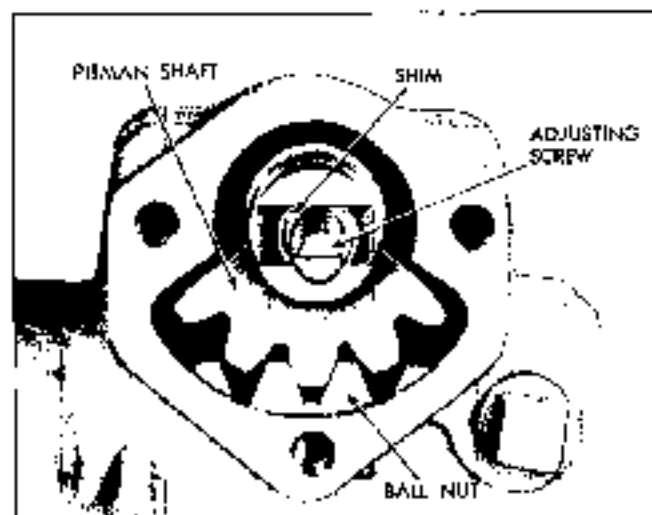

Fig. 9-45 Position of Pitman Shaft and Ball Nut
5. Install pitman shaft adjusting screw and selective shim in pitman shaft (Fig. 9-45).
8. Install pitman shaft and adjusting screw with sector and ball nut teeth positioned as shown in Fig. 9-45.